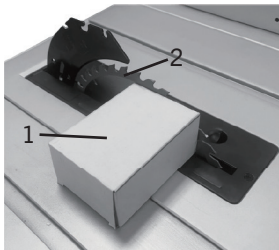

FIG. 19
1. Place a combination square (1) (not included) (Fig.19) on the table and up against the flat portion of the blade (2).